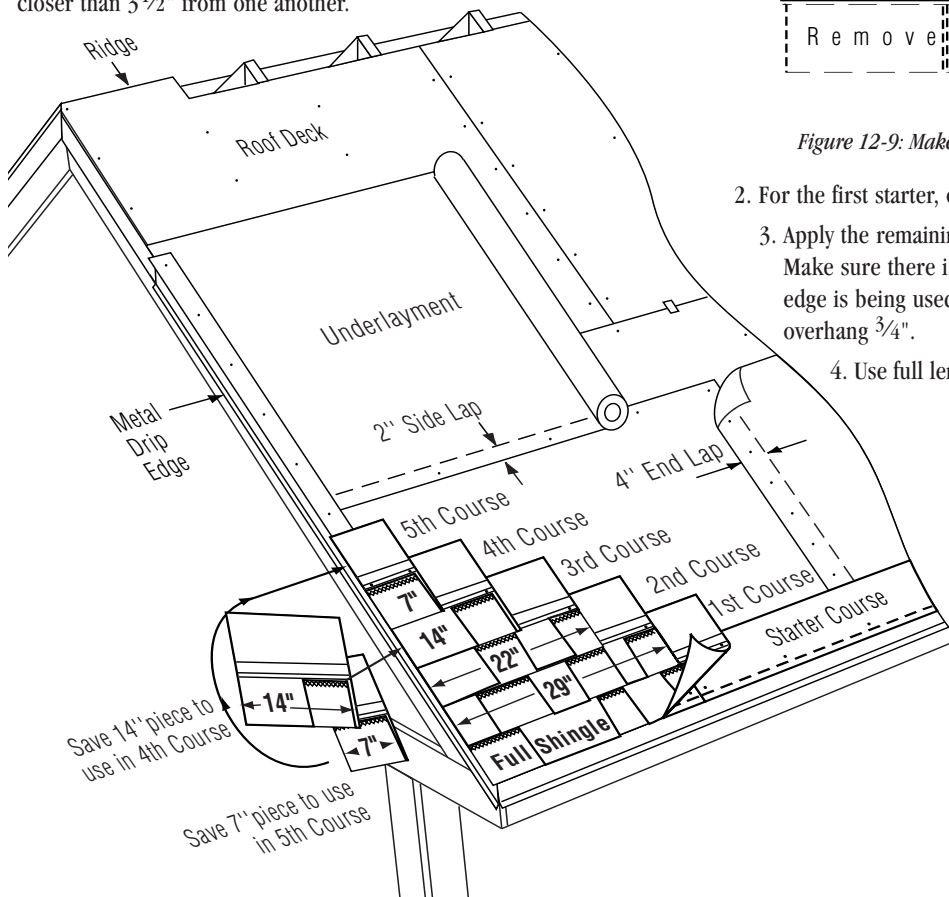

Figure 12-8: Applying the first 5 courses on a standard slope.
**1ST COURSE:** Apply a full shingle at the lower left corner of the roof. Make the lower edge and left edge lie flush with the edges of the starter course (Figure 12-8).
1. Cut 7" off the left end of the first shingle and save this piece for later use. Apply the 29" long piece over and above the first-course shingle. Leave the bottom 5" tab portion of the first-course shingle exposed (Figure 12-8).